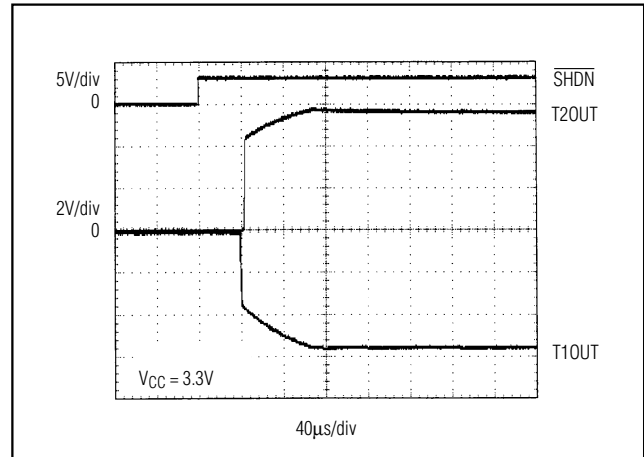

Figure 7. MAX3111E Transmitter Outputs Exiting Shutdown or Powering Up
Supply current falls to ICCSHDN(H) when in hardware shutdown mode ($\text{SHDN} = \text{low}$). When shut down, the device's charge pumps are turned off, V_+ is pulled down to V_{CC} , V_- is pulled to ground, and the transmitter outputs are disabled (high impedance). The time required to exit shutdown is typically $100\mu\text{s}$, as shown in Figure 7. Connect SHDN to V_{CC} if the shutdown mode is not used. The UART software shutdown does not affect the RS-232 transceiver.
Figure 7 shows two RS-232 transmitter outputs exiting shutdown mode. As they become active, the two transmitter outputs are shown going to opposite RS-232 levels (one transmitter input is high; the other is low). Each transmitter is loaded with $3\text{k}\Omega$ in parallel with 2500pF. The transmitter outputs display no ringing or undesirable transients as they come out of shutdown. Note that the transmitters are enabled only when the magnitude of V_- exceeds approximately 3V.